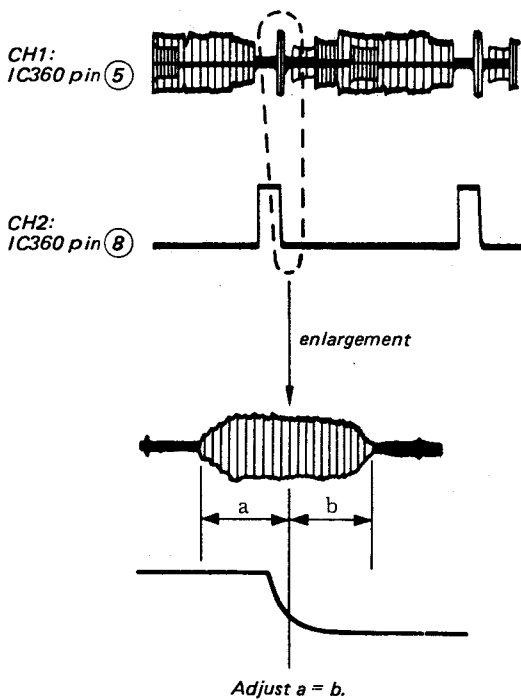

Fig. 3-10
Specified value	$a = b$ (See Fig. 3-10.)
- 1) Adjust RV365 so that the falling position of the burst pulse of CH2 (BF OUT) aligns with the center of the burst signal of CH1 (REC C RF OUT). (See Fig. 3-10.)